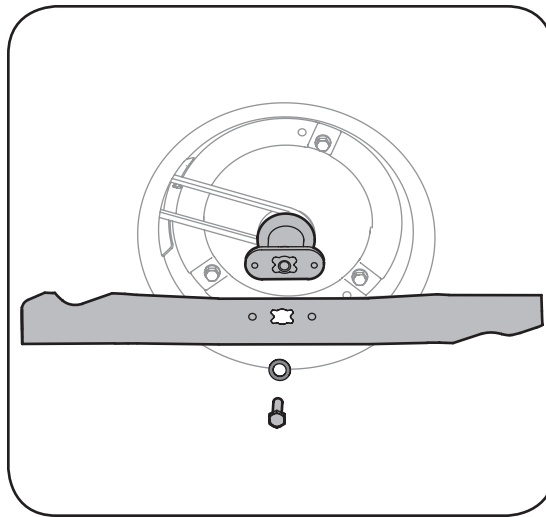

Figure 5-2
2. Remove bolt, bell washer, blade, and blade adapter from the engine crankshaft. See Figure 5-2.